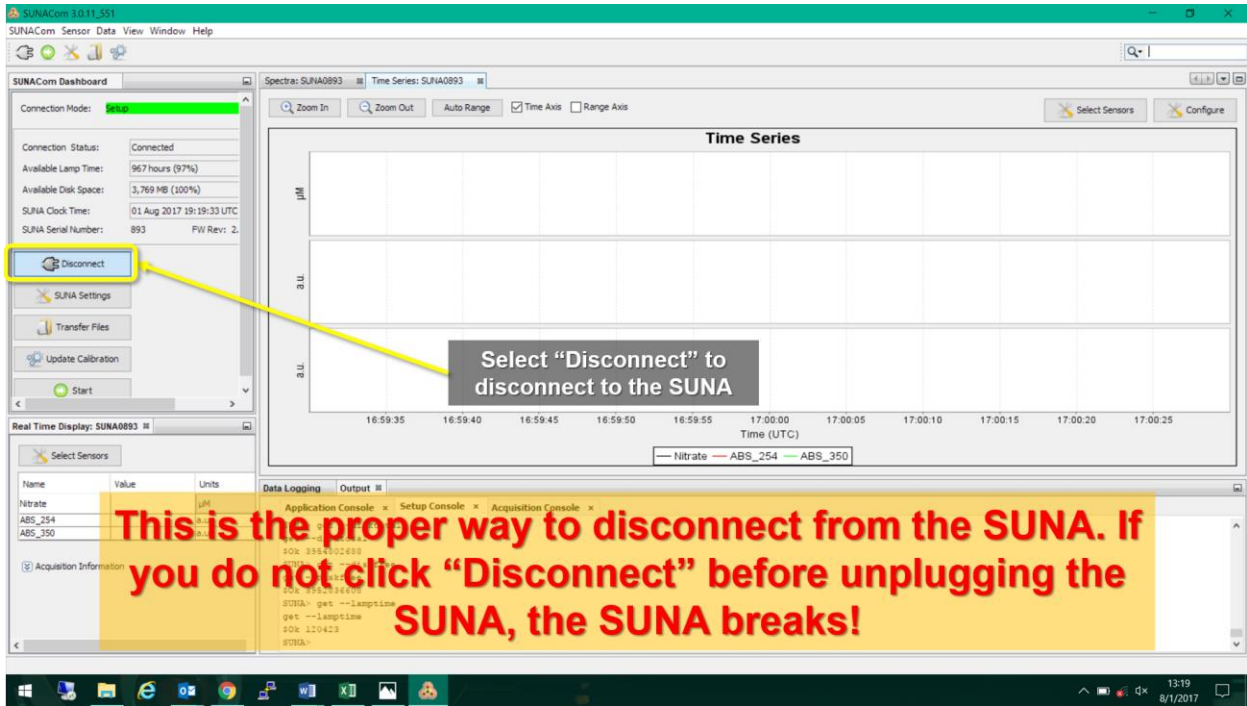

Figure 60. Click "Disconnect" to Properly Disconnect from the SUNA
- 16. To disconnect from the SUNA instrument, click "**Disconnect**" under the **SUNACom Dashboard** section of the main program window (see Figure 59 and Figure 60).